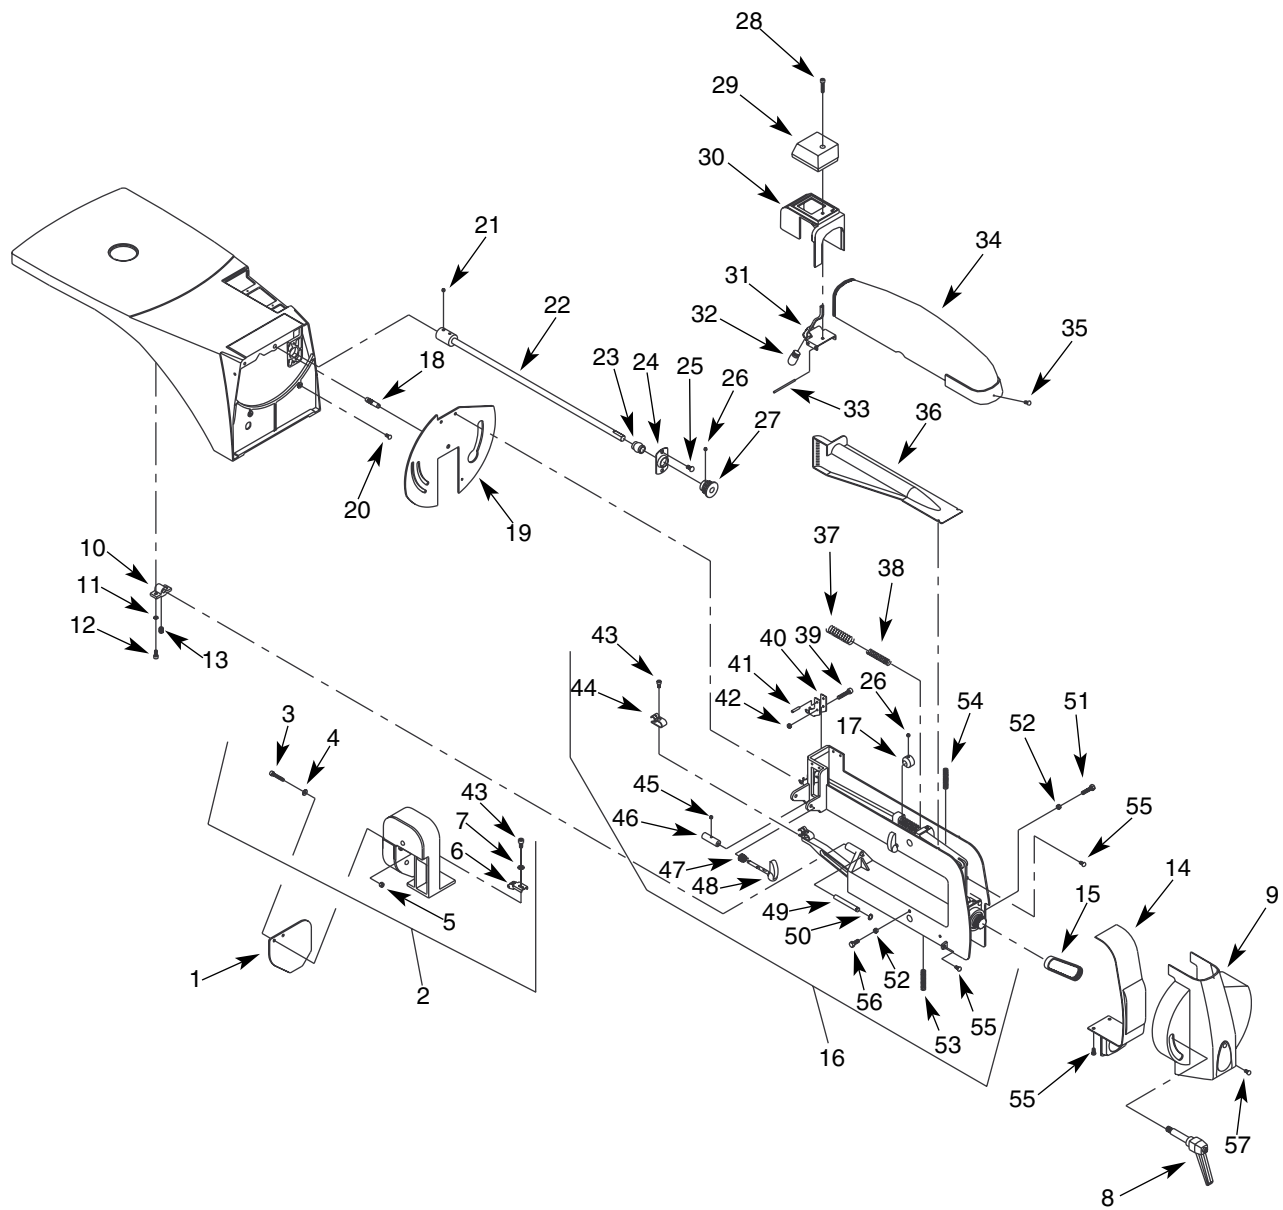

Figure 19 - Replacement Parts Illustration for Arm
- Remove two screws (Fig. 19, Key No. 20) from the base. Tip the saw on its side.
- Loosen set screw in shaft coupler (Fig. 19, Key Nos. 21 and 22).